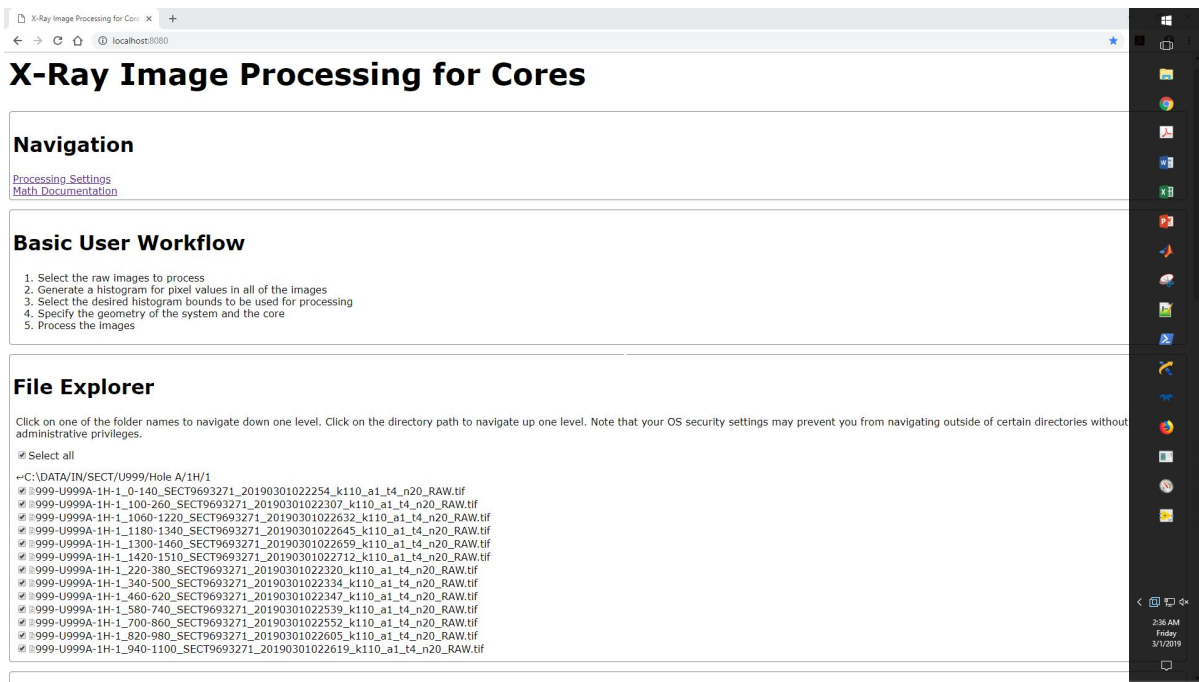

Figure 45- IODP X-ray imager processing window
- a. The X-ray image processing window should open (**Figure 45**).
10. Under the File Explorer heading, navigate to the location of your files (**Figure 45**).